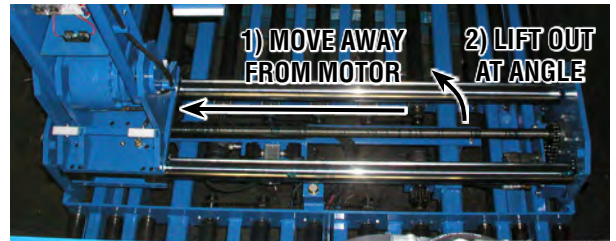

**FIGURE 8**
- Remove the hardware from the bearing retainer blocks inside the extractor arm housing on both sides. This will disconnect the lead screw from the extractor. See Figure 8.